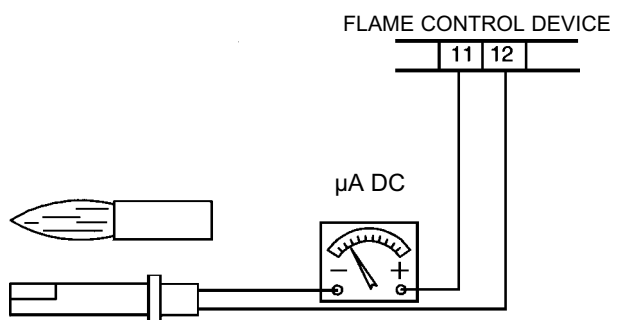

Fig. 10
- Examine and carefully clean the flame detector photoelectric cell and replace if necessary. If in doubt light the burner and then check the detector circuit as shown in fig. 10.
To measure the detection current follow the diagram in fig. 10.